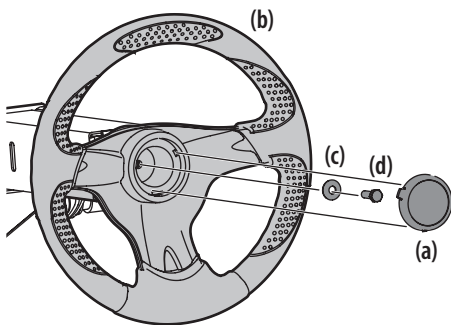

Figure 2-6
1. Remove the hardware for attaching the steering wheel from beneath the steering wheel cap (a). Carefully pry off the steering wheel cap (a) to remove the hardware. See Figure 2-6.
2. With the wheels of the machine pointing straight forward, place the steering wheel (b) over the steering shaft. See Figure 2-6.
3. Place the Belleville washer (c) over the steering wheel (b) and secure with the hex lock screw (d). See Figure 2-6.